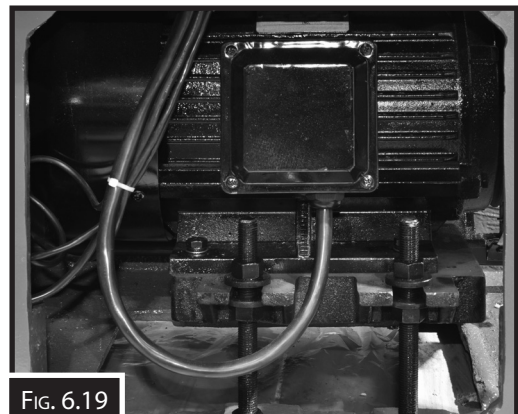

FIG. 6.19
3. Adjust the hex nuts on the motor mount bolts until there is approximately 20mm deflection of the V-belts when moderate pressure is applied midway between the pulleys. (Fig. 6.19)